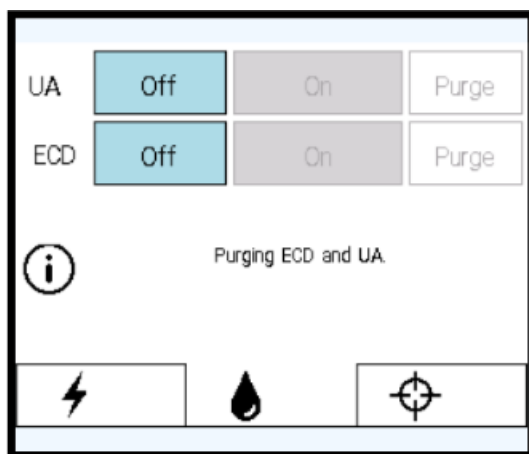
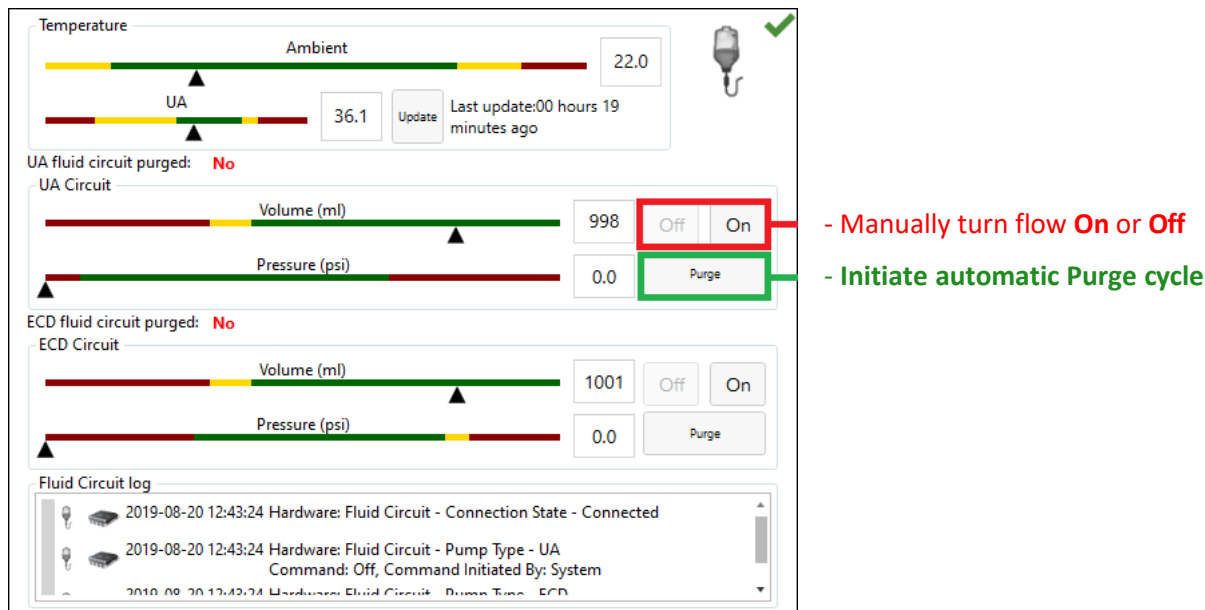

Figure 9: PSIB Display - Fluid Circuit tab
Figure 10: Fluid Circuit information box in TDC Setup workspace
- On the PSIB display, choose the **Fluid Circuit** tab  (Figure 9) and **Purge** the UA and ECD fluid circuits. You can also do this from the TDC by pressing **PURGE** beside the fluid circuit (FC) quadrant (Figure 10).
- a. If the purging cycle ends before completing the steps in this process, return to the PSIB display (or TDC window) and manually turn the flow on by clicking **On**. The fluid pumps will remain on until you click **Off** (*Figure 10*).